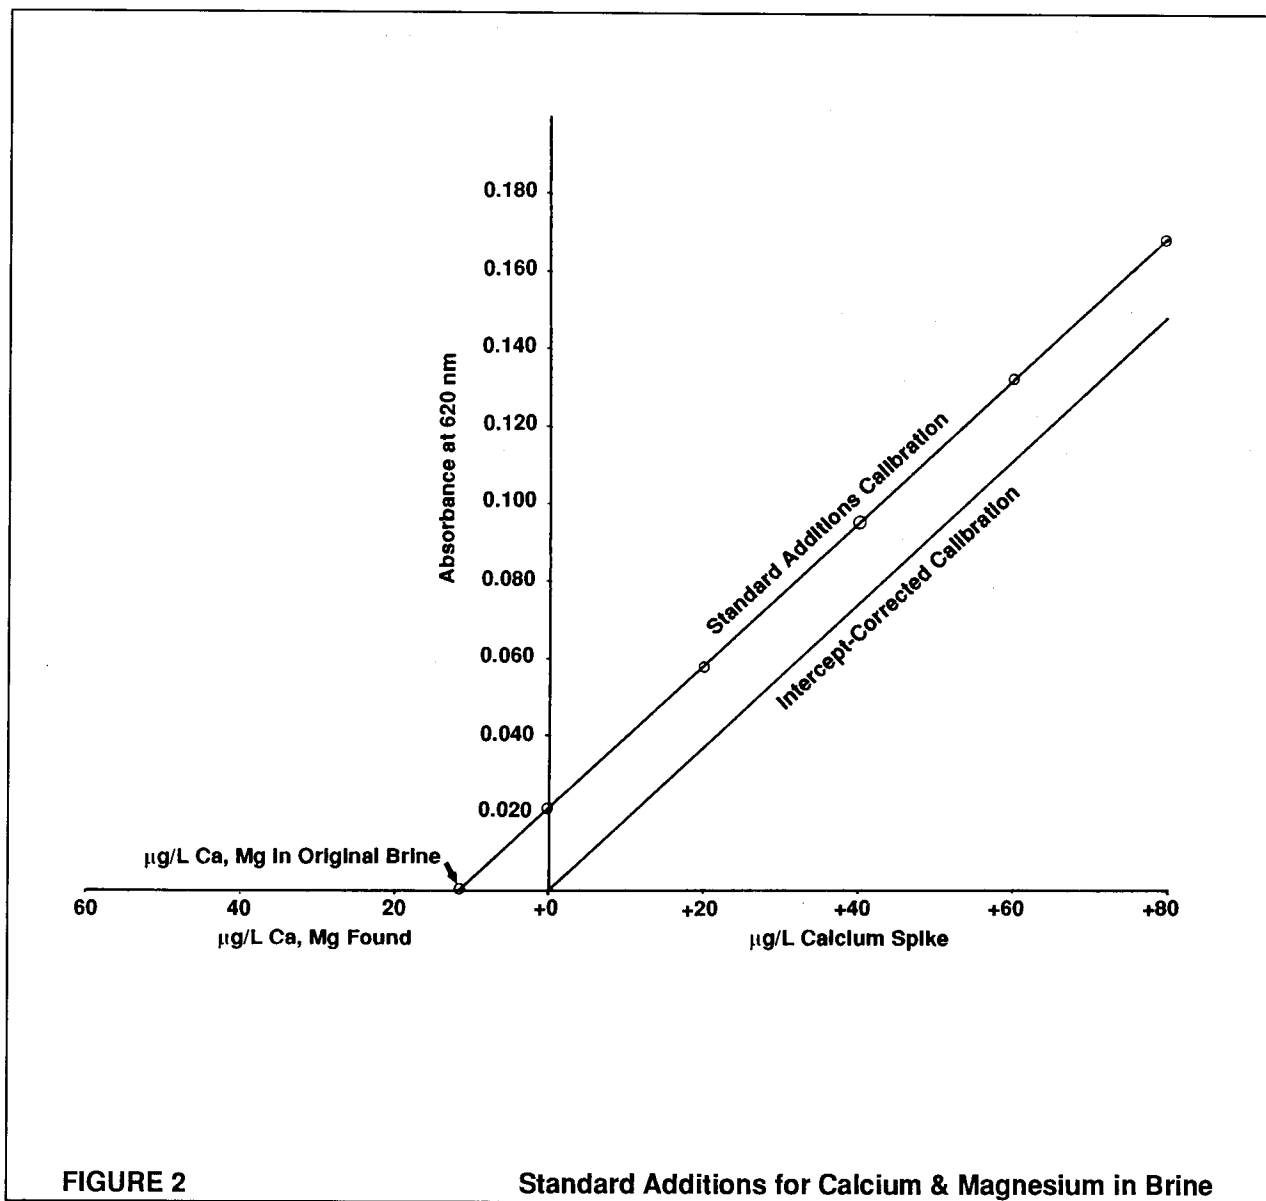

FIGURE 2
G. The reagent blank contribution is controlled at the factory to less than 1.0 µg/L calcium plus magnesium. It is advisable to analyze one purified brine and at least one standard calcium addition frequently to ensure the reagents are good and the calibration is acceptable. The intercept point-corrected calibration is made by subtracting the absorbance of the + 0 µg/L brine from the absorbance values of the spiked brines (see *Figure 2*).